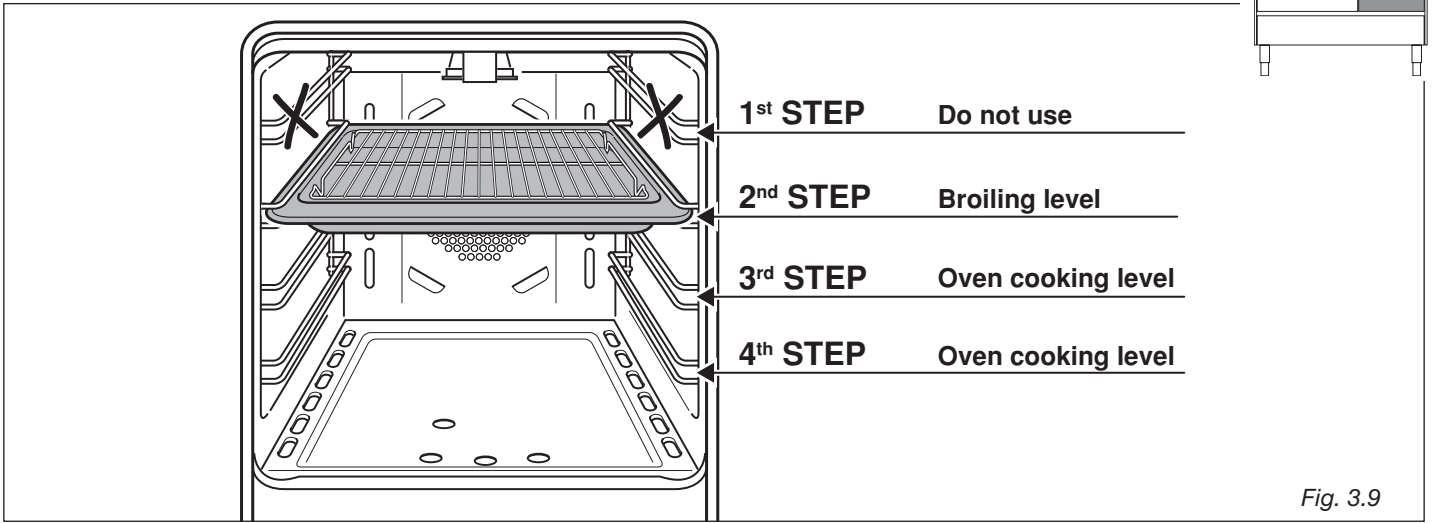
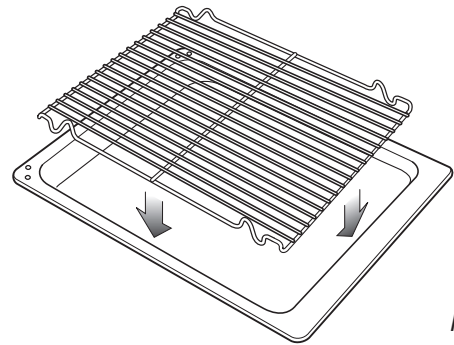

Fig. 3.9
Fig. 3.10
- Introduce the grill-pan (tray + grid) in the oven (fig. 3.10) and insert it on the second level from the top (fig. 3.9).